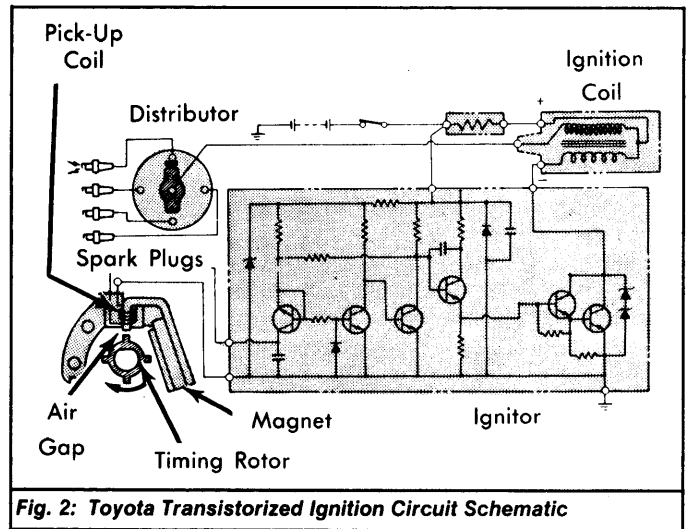

**Fig. 1: Disassembled View Of Nippondenso Distributor (Toyota Shown)**
Nippondenso Transistorized Ignition System includes a breakerless distributor, ignition coil, pick-up coil assembly, and ignition switch. The distributor consists of housing, rotor, and cap. The housing contains timing rotor (reluctor), magnet, and pick-up coil assembly. A transistorized ignitor (ignition control unit) is separate from the distributor. See Fig. 1.
1) Remove distributor cap, rotor, dust cover and packing. Remove pick-up coil assembly, vacuum advance mechanism, breaker plate and drive pinion. See Fig. 1. Discard pinion.